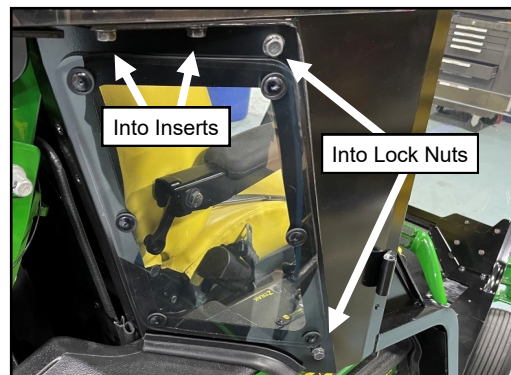

Fig. 2.19 (Install Right Filler)
2.19 Install right filler onto the cab from the outside using provided hardware per Figure 2.19. Notes: Tuck upper rear corner in front of ROPS bracket. Side screws have lock nuts on the inside.